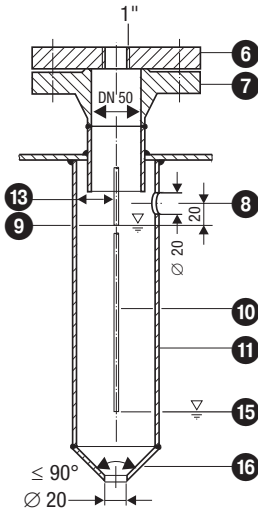

Fig. 4 Protection tube (provided on site) for installation inside the boiler
- One level electrode NRG 10-52 / NRG 16-52 can be installed together with one GESTRA level electrode, one compact level switch or transmitter in a single protection tube or external level pot (inside diameter 100 mm). **Fig. 4 - 7**. If the level limiting electrode is installed inside the vessel, it must be at least 40 mm away from the upper vent hole.
- Make sure that the air distance between the electrode tips and earth (flange, vessel wall) is not less than 14 mm. **Fig. 4 - 7**.